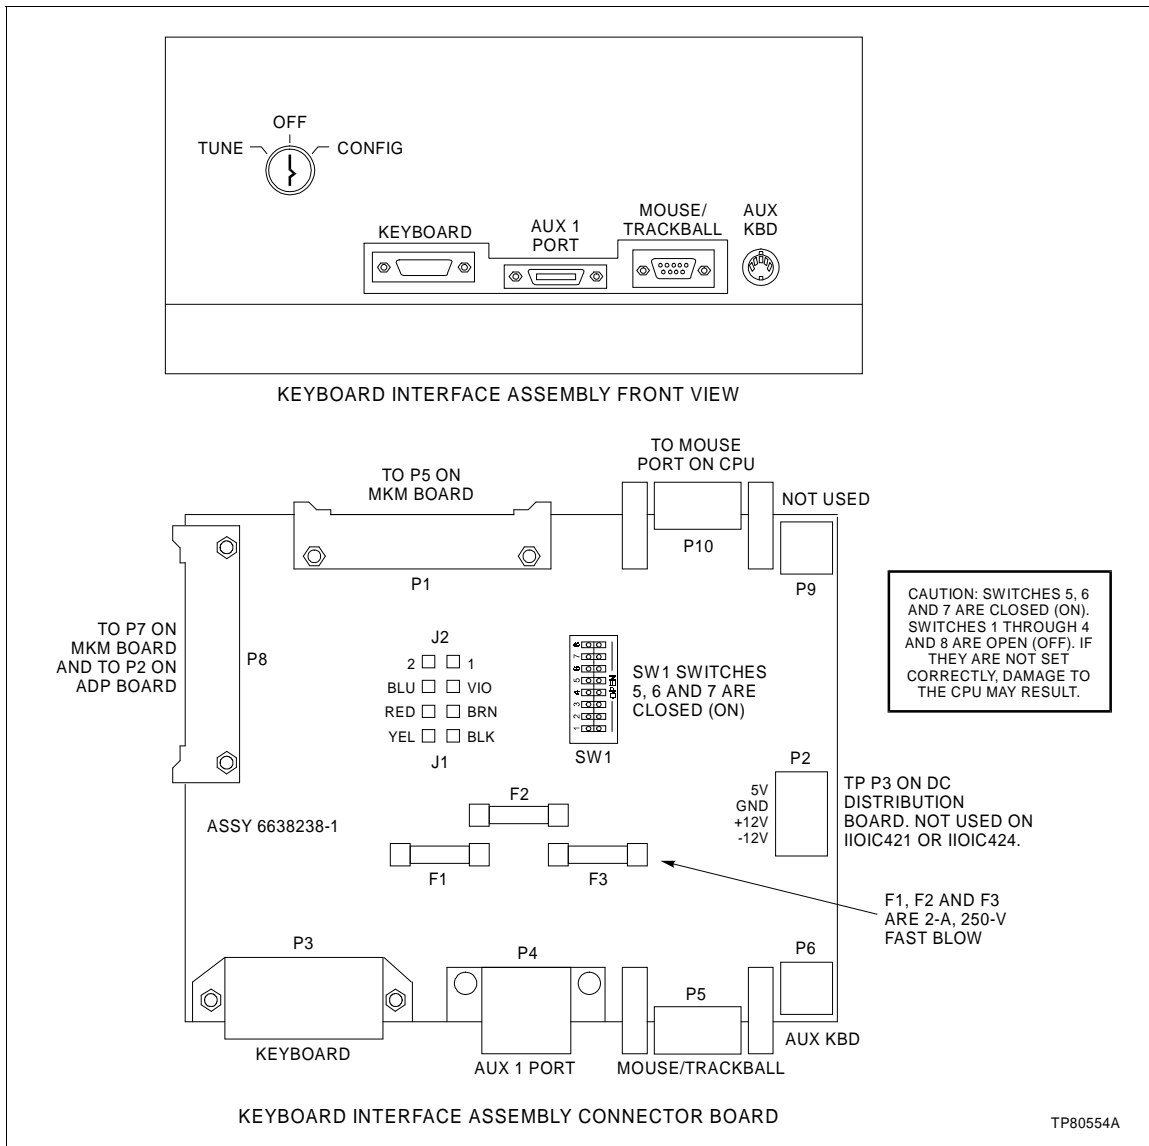

Figure 6-14. Keyboard Interface Assembly (IIOIC422 Model)
The keyboard socket is for the operator keyboard supplied with the OIC consoles (Figure 6-14). The AUX 1 port is for a table-top annunciator display panel. The auxiliary keyboard connector is for an engineering keyboard. Connector P9 is not used.
7. See Figure 6-14 for SW1 settings on new keyboard interface assembly.
7. Refer to Figure 6-14 for SW1 settings on the new keyboard interface assembly.
5. Refer to Figure 6-14 for SW1 settings for the new keyboard interface assembly.
5. Refer to Figure 6-14 for the SW1 switch settings for the new keyboard interface assembly.